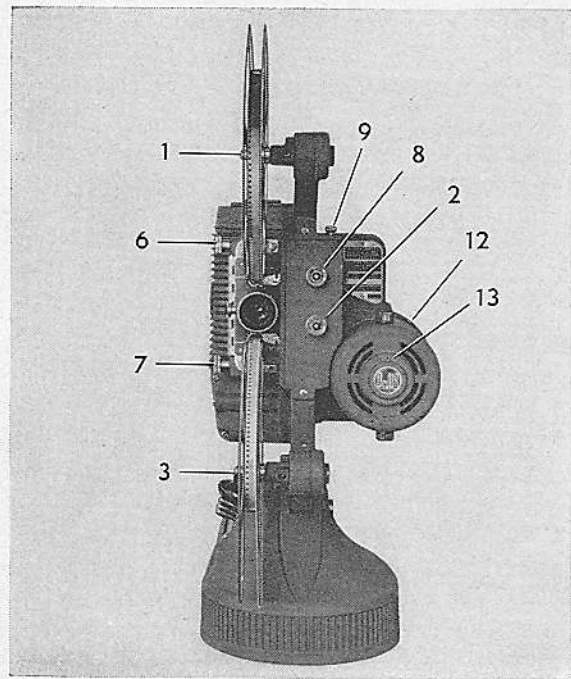

Fig. 8—Front of Projector
Variations in films make the black dividing line between successive pictures appear on the screen. The DeJUR 8mm projector is equipped with a device which adjusts the position of the picture to the center of the projected beam. The knob marked "FRAMER" on the side of the projector (6, Fig. 8) is the adjustment which is turned. Try turning it to the left or right while film is being projected to see the effect produced. Adjustment is correct when no black line shows at top or bottom of picture.
If it is desirable to hold one particular frame on screen for detailed study, turn knurled knob (on the operating side of the projector) marked "Movies-Stills" (7, Fig. 8) clockwise or to the right, and film will stop. Motor will keep running and lamp will remain on.
Sometimes upon stopping film in this fashion, no picture will be seen on screen. This is an indication that projector has stopped with its shutter blocking the light. A turn or two of threading knob (2, Fig. 8) will turn shutter and permit picture to be projected on screen.
After viewing a still picture, be sure knob (7, Fig. 8) returns *all* the way back to MOVIES position. Do not leave knob at midway position.
Snap switch to REVERSE and turn motor switch to "START". Advance Speed Control to "FAST". Then turn knob marked "Quick Rewind", located at front of projector (8, Fig. 8) slowly in a clockwise direction as far as you can then release it. The film will now travel rapidly from take-up reel to upper reel.
A. The machine is in the "Still" position. Rotate knob (7, Fig. 8) in a counterclockwise direction and the machine will start.
A. Turn the threading knob by hand (2, Fig. 8). Turning this knob either to the right or to the left will eliminate jamming. This condition causes no damage whatever.
A. First, be sure the rapid rewind knob (8, Fig. 8) has been turned as far as it will go to the right. This engages the high speed rewind which will automatically disengage when the machine is reversed for normal projection. Be sure